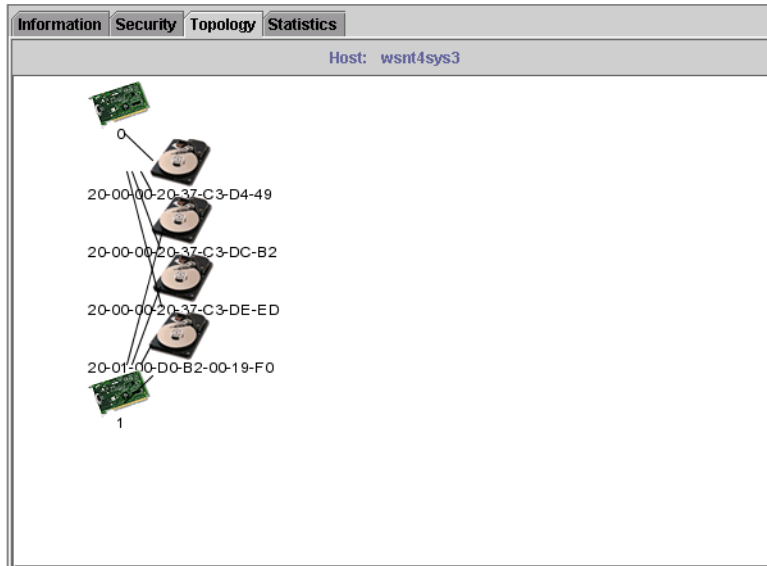

Figure 9-2. Topology Tabbed Page
2. Select the **Topology** tab. The **Topology** tabbed page displays (see figure 9-2).